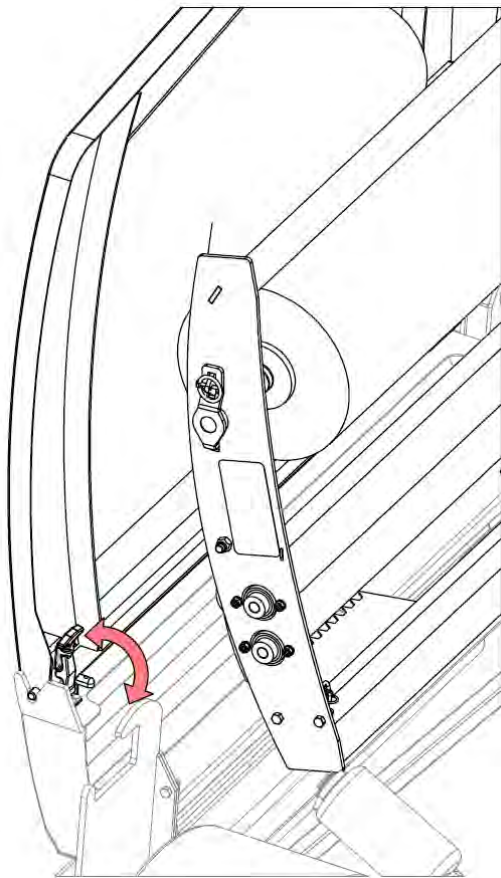

Fig.2
3. Unfasten rubber latch from inner rear of left safety guard. See *Fig.2*.